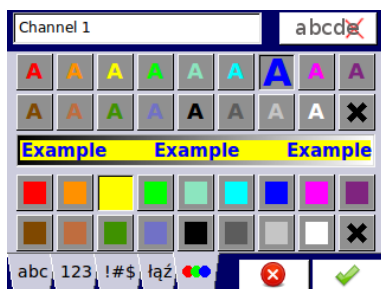

Fig. 7.5. Text editor – font and background colour selection
- font and background colours, see Fig. 7.5,